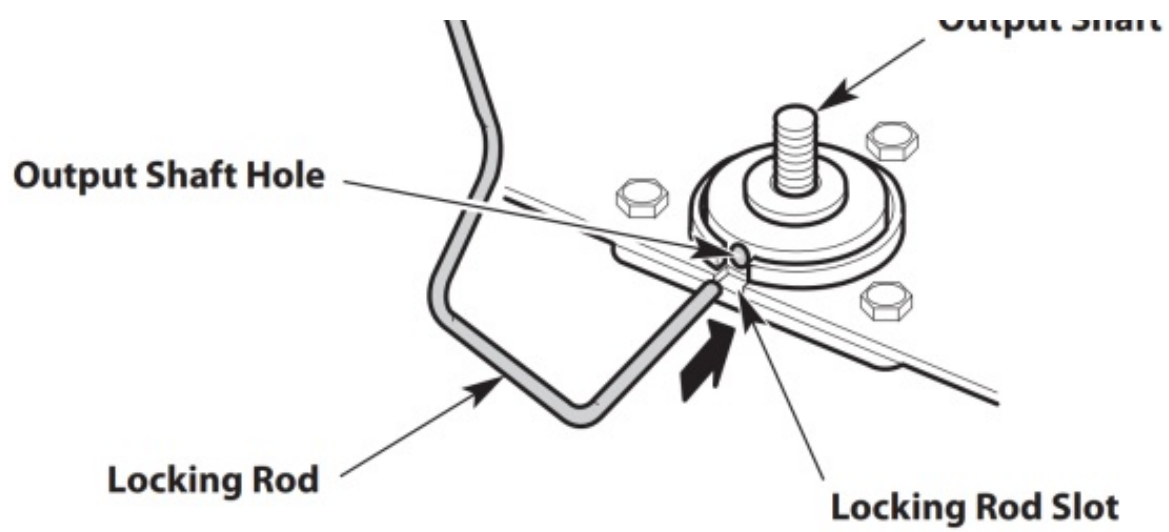

Fig. 7
1. Align the output shaft hole with the locking rod slot. Insert the locking rod through the locking rod slot and into the output shaft hole (Fig. 7).
4. Align the output shaft hole with the locking rod slot. Insert the locking rod through the locking rod slot and into the output shaft hole (Fig. 7).